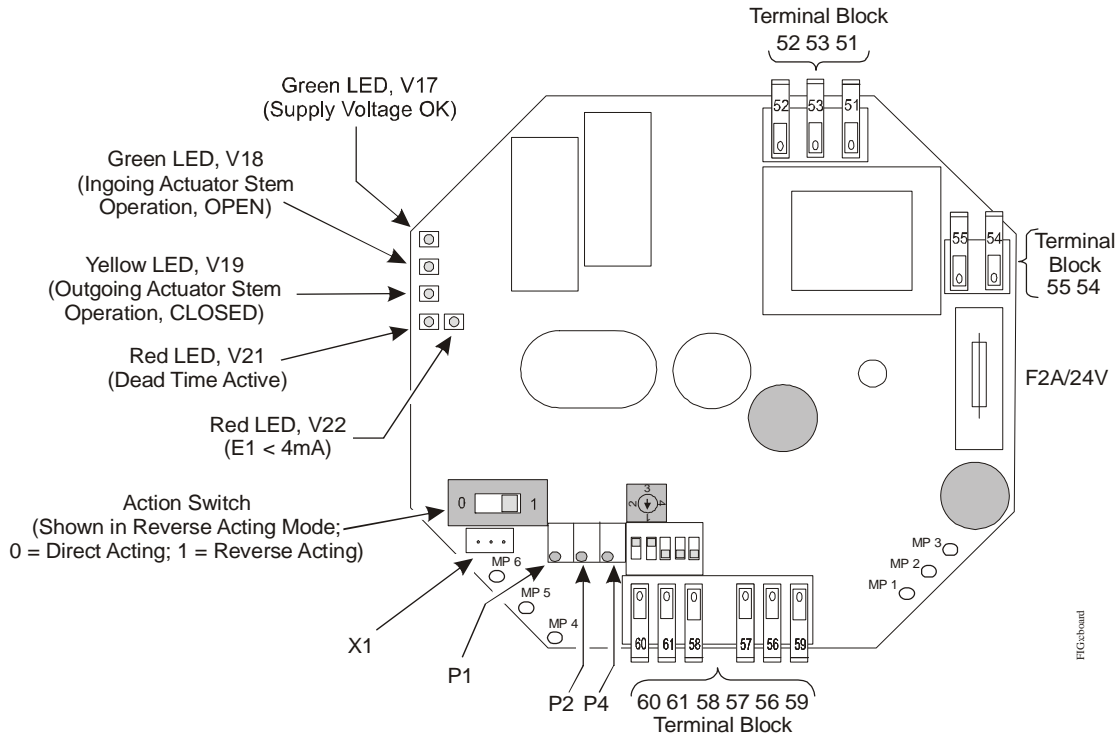
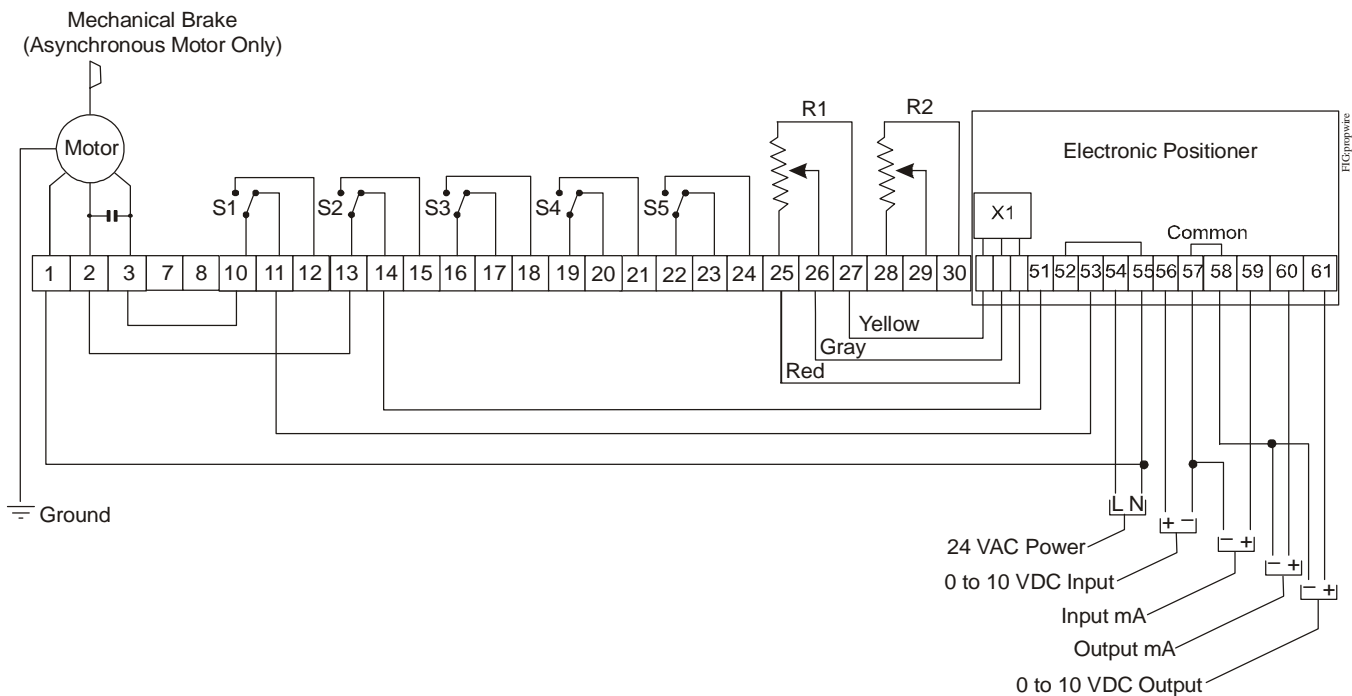

Figure 2: VA-6100-HGC Circuit Board Parts and Light-Emitting Diode (LED) Identification
Figure 7: VA-6100-HGC Wiring Diagram for Proportional Control
1. Apply 24 VAC power to Terminals 54 and 55 (Figure 7) and determine if the actuator is set for direct acting or reverse acting.
3. Set the action switch on the actuator circuit board from the 0 (direct acting) position to the 1 (reverse acting) position (Figure 2).
4. Apply 24 VAC power to Terminals 54 and 55 (Figure 7) and check for the desired action.
To adjust the operating range of the VA-6100-HGC Electric Valve Actuator, see Figure 2 and proceed as follows:
1. Apply 24 VAC power to Terminals 54 and 55 (Figure 7).
2. Note the location of the green and red LEDs on either end of the terminal block (Figure 2). The green LED illuminates when the actuator motor is running, and the red LED illuminates when the actuator motor is stopped.
- a. Input the desired minimum control signal between 0 and 8 VDC to Terminals 56 and 57 (Figure 7) for voltage applications, or input the desired minimum control signal between 0 and 16 mA to Terminals 58 and 59 (Figure 7) for current applications. The actuator motor may run, illuminating the green LED (see Figure 2). If so, wait until the actuator motor stops and the red LED is illuminated before proceeding.
- b. Connect a voltmeter to Terminals 57 and 61 or a current meter to Terminals 58 and 60 (Figure 7). The voltmeter should be on the 10 V range or the current meter should be on the 20 mA range.
- d. Locate Potentiometer P1 on the actuator circuit board (Figure 2) and adjust it until the voltmeter reads 0.35 V above the minimum control signal or the current meter reads 0.7 mA above the minimum control signal. The actuator should fully retract.
- f. Input the desired maximum control signal between 2 and 10 VDC to Terminals 56 and 57 (Figure 7) for voltage applications, or input the desired maximum control signal between 4 and 20 mA to Terminals 58 and 59 (Figure 7) for current applications. The maximum control signal must always exceed the minimum control signal by at least 2 VDC or 4 mA.
- g. Locate Potentiometer P2 on the actuator circuit board (as illustrated in Figure 2) and adjust it until the voltmeter reads 0.35 V below the maximum control signal or the current meter reads 0.7 mA below the maximum control signal. The actuator should fully extend.
- Input the desired maximum control signal between 2 and 10 VDC to Terminals 56 and 57 (Figure 7) for voltage applications, or input the desired maximum control signal between 4 and 20 mA to Terminals 58 and 59 (Figure 7) for current applications. The actuator motor may run, illuminating the green LED (see Figure 2). If so, wait until the actuator motor stops and the red LED is illuminated before proceeding.
- Connect a voltmeter to Terminals 57 and 61 or a current meter to Terminals 58 and 60 (Figure 7). The voltmeter should be on the 10 V range or the current meter should be on the 20 mA range.
- Input the desired minimum control signal between 0 and 8 VDC to Terminals 56 and 57 (Figure 7) for voltage applications, or input the desired minimum control signal between 0 and 16 mA to Terminals 58 and 59 (Figure 7) for current applications. The minimum control signal must always be at least 2 VDC or 4 mA less than the maximum control signal.